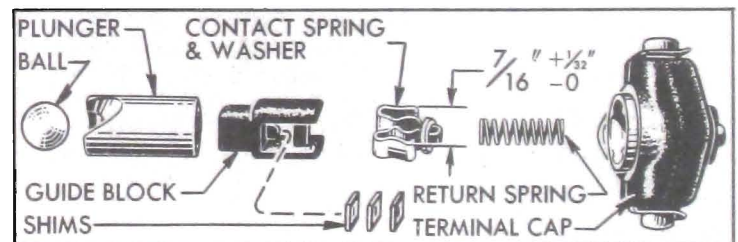

Figure 10-27—Carter Accelerator Vacuum Switch Parts
1. Disconnect wires from terminals. Hold down on switch terminal cap while removing hold down clip. Remove terminal cap and return spring, then lift out switch guide block with contact spring and shims. Do not lose timing shims and the spring washer on contact spring. See figure 10-27.
4. Check condition of contact spring and replace it if burned or otherwise damaged. The free width of spring across the points, with return spring washer in place is $\frac{7}{16}'' + \frac{1}{32}'' - 0$. See figure 10-27.